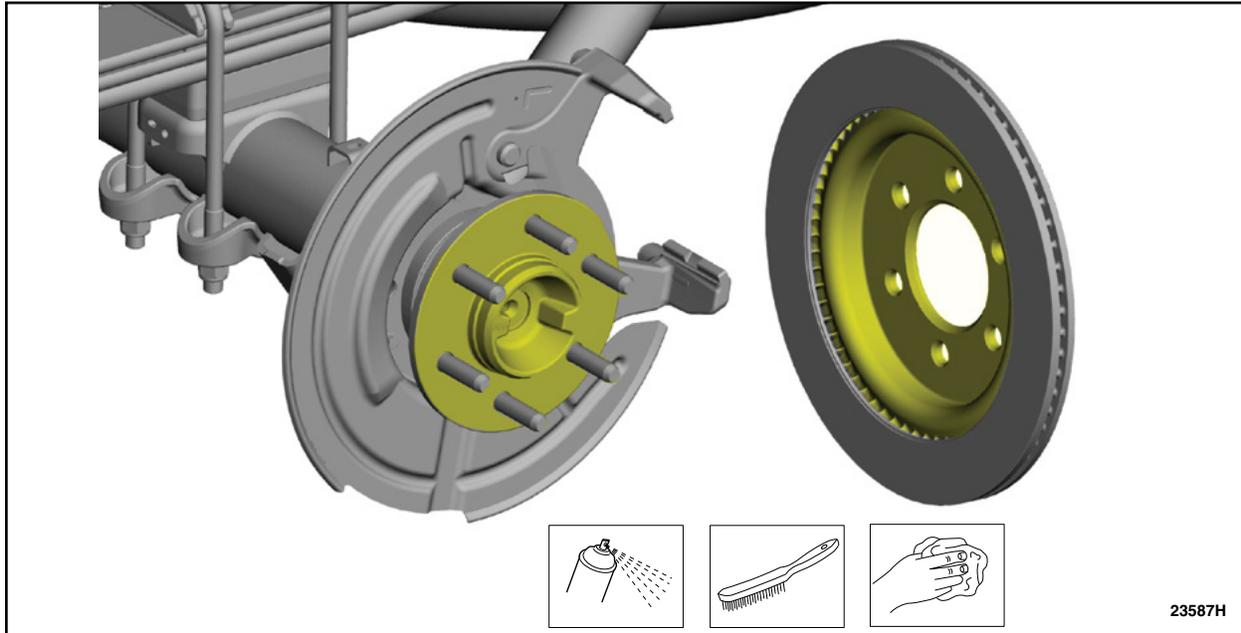

FIGURE 6
8. On both sides, clean the brake disc mating surfaces using a wire brush and the specified material. See Figure 6. Material: Motorcraft® Metal Brake Parts Cleaner / PM-4-A, PM-4-B.